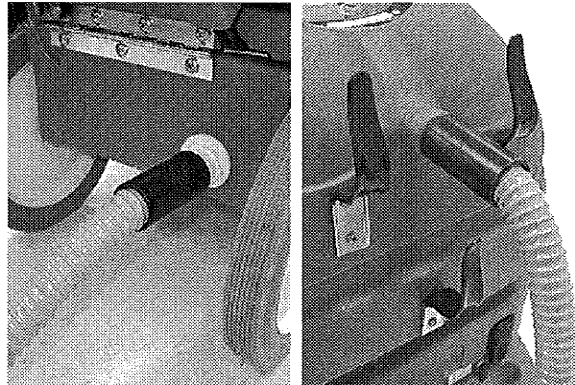

FIG. 29
1. Attach gray blower hose to blower hose connector and to vacuum hose connector (Figure 29).